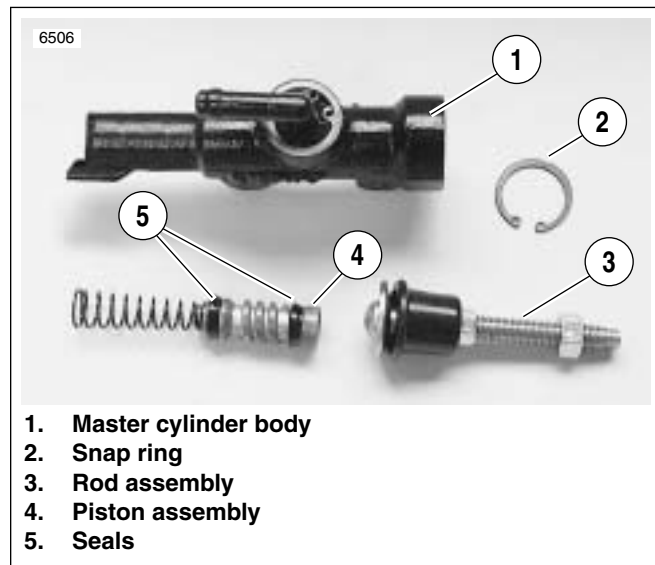

Figure 2-56. Master Cylinder Internal
1. See Figure 2-56. Slide rubber boot on rod assembly (3) away from master cylinder body (1).
2. Depress rod assembly (3) and remove internal snap ring (2). Discard circlip.
3. Remove piston assembly (4) from master cylinder body (1).
4. Loosen adjuster locknut on the rod assembly (3).
5. Remove the clevis from the rod assembly (3).
2. See Figure 2-56. Assemble **new** piston components placing small end of spring behind primary seal of piston (4).
3. Lubricate master cylinder body (1) and piston seals (5) with **D.O.T. 4 BRAKE FLUID**.
4. Place round side of rod assembly (3) over piston. Depress piston (4) into master cylinder body (1) and secure with a **new** snap ring (2).